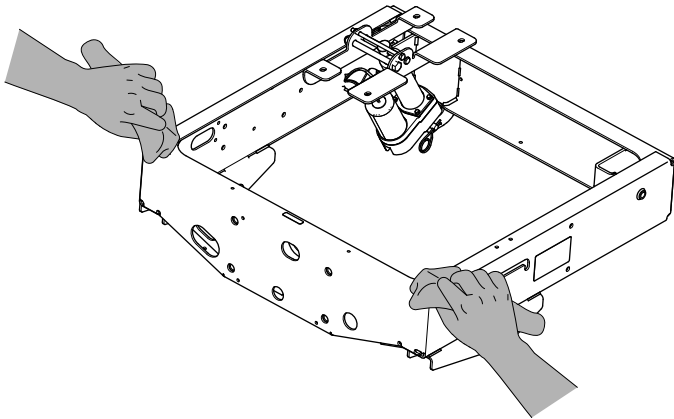

Figure 14
1. Clean the 2 areas of the frame (Figure 14) so that the adhesive on the foam pads adhere properly to the frame.